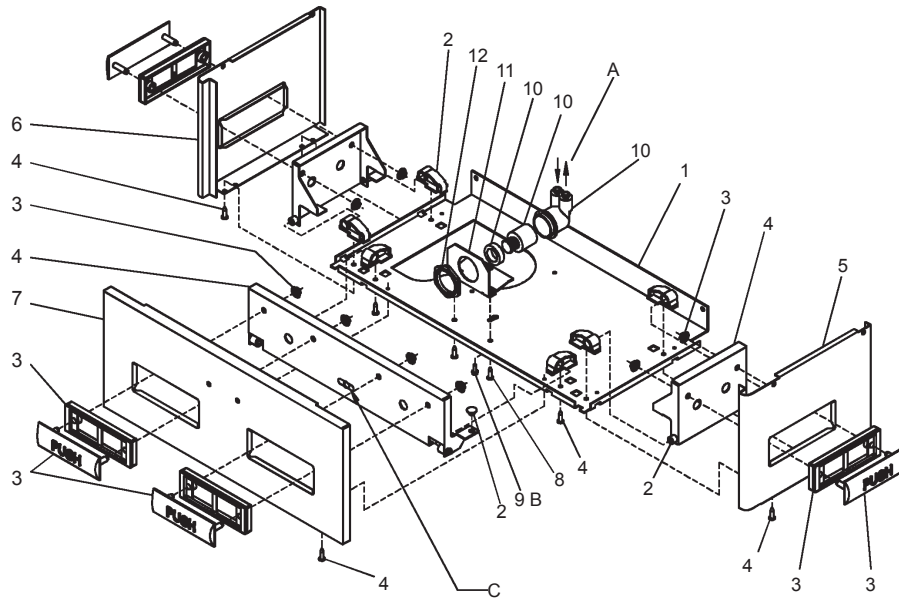

FIG. 3
- 8) Stream height is factory set at 35 PSI. If supply pressure varies greatly from this, adjust screw, accessible by removing front panel (Item 7, Fig. 3). CW adjustment will raise stream and CCW adjustment will lower stream. For best adjustment, stream should hit basin approximately 6-1/2" (165mm) from bubbler.
- 9) Replace the front panel and secure by retightening four (4) screws.